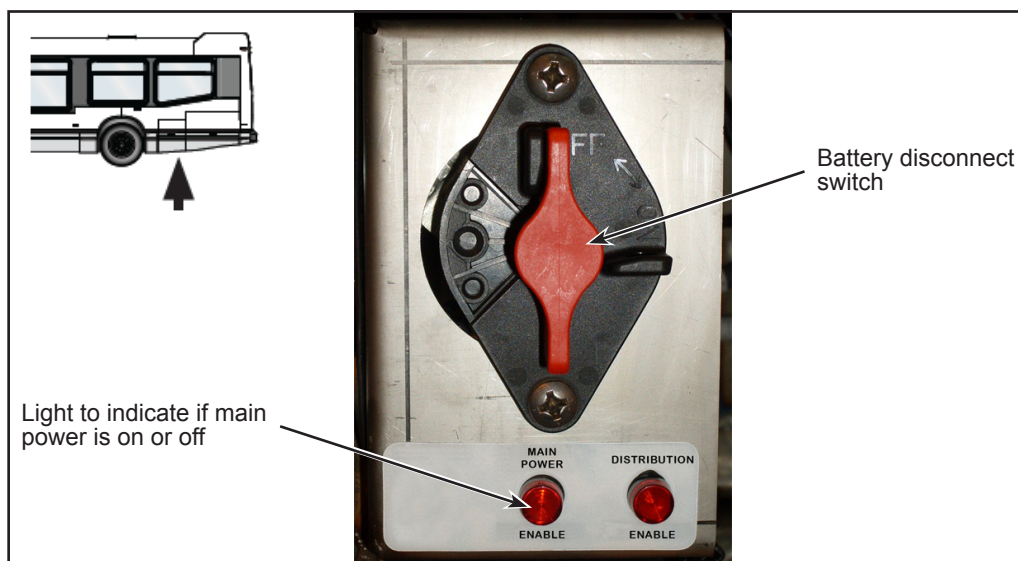

Figure 1 - Battery disconnection switch position
- 1.2. Set the battery disconnect switch in the battery compartment to the OFF position (see Figure 1).